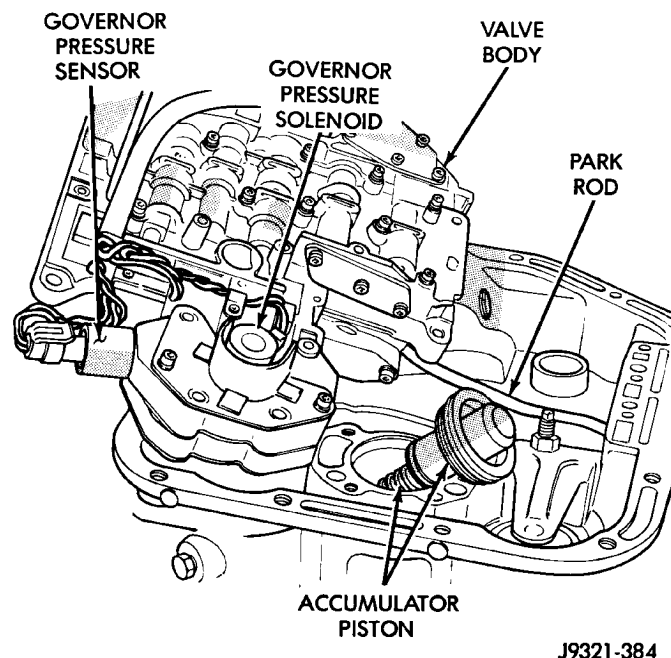

Fig. 92 Valve Body Removal
(10) Remove valve body assembly. Push valve body harness connector out of case. Then work park rod and valve body out of case (Fig. 92).